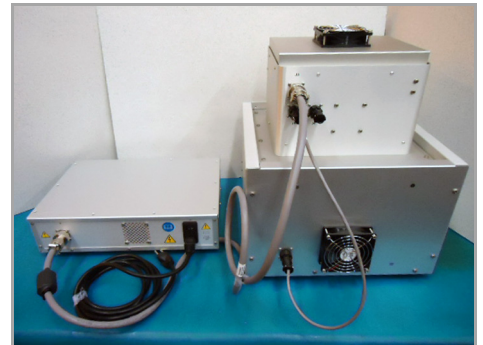

Figure 6. Rear Connections
14. Connect the ECE Light Shield to the J5 Receptacle on the rear panel of the Lamp with the Interconnect Cable (PN 40878). (Figure 6)
15. Using the second Interconnect Cable (PN 40695), connect the Power Supply to the Lamp (Figure 6).